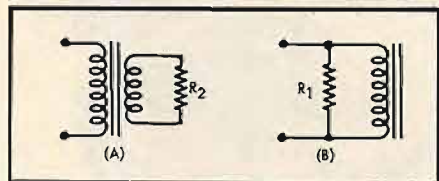

Fig. 4. When the ratio of primary to secondary turns equals n , the transformer and resistance of (A) can be replaced by (B), where $R_1 = n^2 R_2$.
The output transformer itself is again a little more troublesome. The practical circuit is that of (A) in Fig. 4, two separate windings coupled by the iron core with the second winding supplying power to the loudspeaker. A start can be made by substituting a resistor R_{LS} for the voice coil to give (B) of Fig. 4, but at the moment the next step will have to be taken on trust for later verification. The transformer ratio, usually denoted by the symbol n , has no effect on the frequency response, so to avoid having to multiply every impedance by n^2 it is simpler to assume that the turns ratio is 1:1, the two windings having equal numbers of turns.